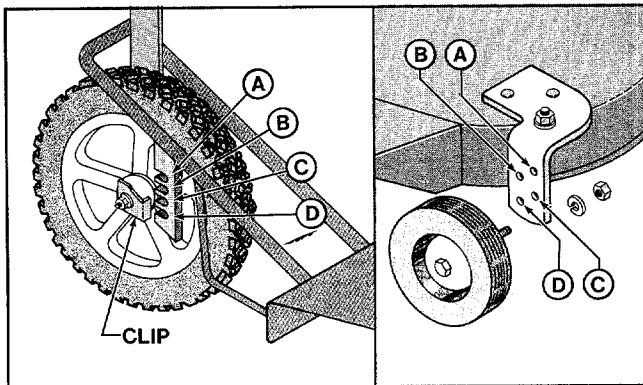

Figure 5-5: Wheel height adjustment positions.
**C.** Using a 9/16" wrench, loosen, but do not remove, the inside and outside flanged lock nuts that secure the rear wheels in place. See Figure 5-5. Remove the wheels and replace them in the same corresponding slots (A, B, C or D) on both sides.
**E.** Using 9/16" and 3/4" wrenches, remove the nut and lockwasher from each front wheel, leaving the mounting bolts in place. See Figure 5-5. Remove the wheels and replace them in the same corresponding